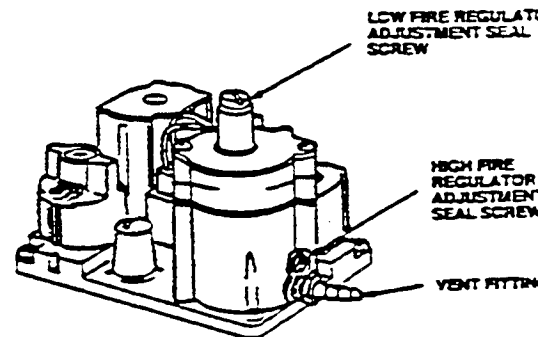

Figure 5. Pressure regulator adjustment
4. Remove adjustment seal screw (see fig. 5).